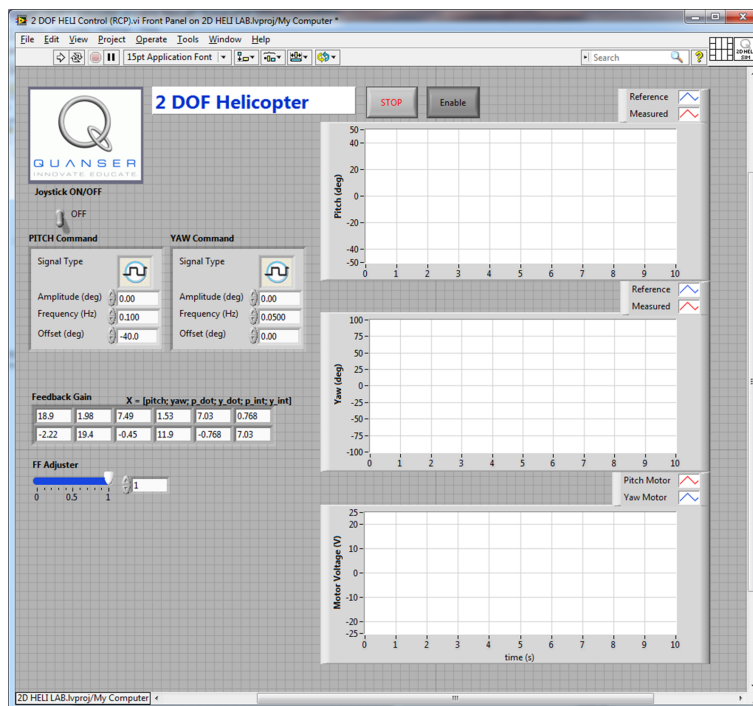

Figure 5.11: LabVIEW VI used to run the closed-loop controller on the 2 DOF Helicopter
- Open the *2D HELI Control* VI that is used to run the 2 DOF Helicopter experiment, shown in Figure 5.11.
15. Alternatively, the desired angle can be generated using the joystick. To use the joystick, set the *Joystick ON/OFF* switch shown in Figure 5.11 to the ON position. The rate at which the desired angle increases or decreases given a joystick position can be changed using the *Rate Command* knob. When starting, set the *Rate Command* knob on the joystick to the midpoint position.